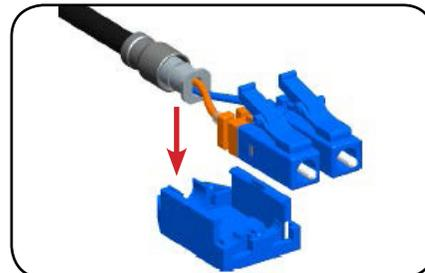

Figure 2
**Step 2:** Remove the lower half of the body (**Figure 2**).